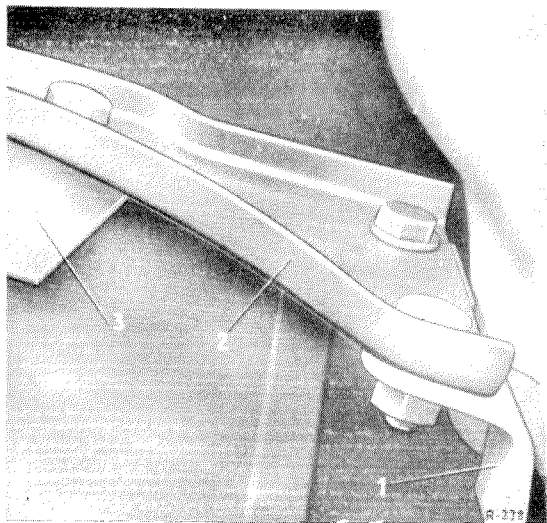

Fig. 01 — 2/4
14. Detach the support (2) at the mounting plate (1) for the exhaust pipe suspension (see Fig. 01 — 2/4).